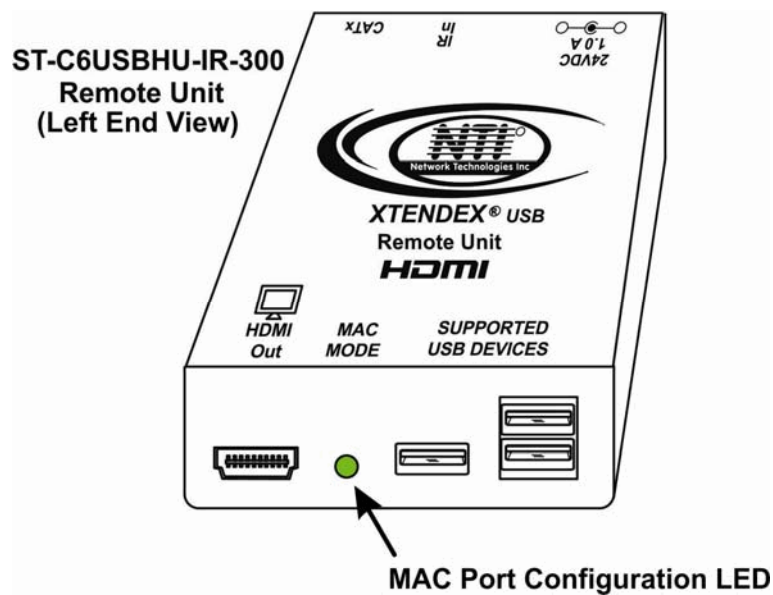

Figure 6- MAC LED
2. If a MAC CPU is connected, press the <M> key. The keyboard LEDs will momentarily flash and the "MAC" LED on the Remote Unit will illuminate to indicate MAC Mode is ON. (See Figure 6)